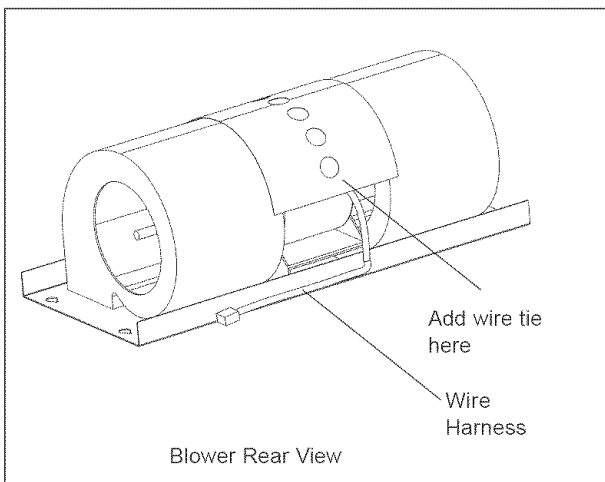

Figure 12b
4. Attach wire harness with Molex 6-pin connector to housing as shown in Figure 12b with wire tie (supplied).